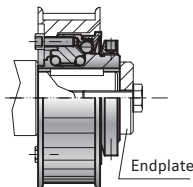

Figure 6
Slide the coupling onto the shaft. Lock it in position, with an end plate (8) for example. Figure 6.